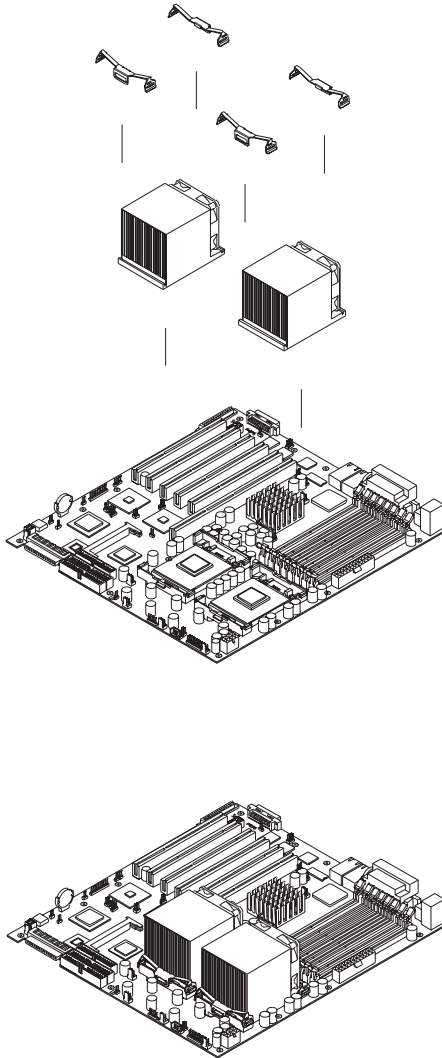

Figure 5-2. Heatsink Installation
5. Secure the heatsink by locking the retention clips into position. When correctly installed, the clips should *click* into place and the three black tabs on the CPU retention pieces should protrude fully through the corresponding holes on the retention clips. See Figure 5-2 for a diagram of the heatsink installation procedure.